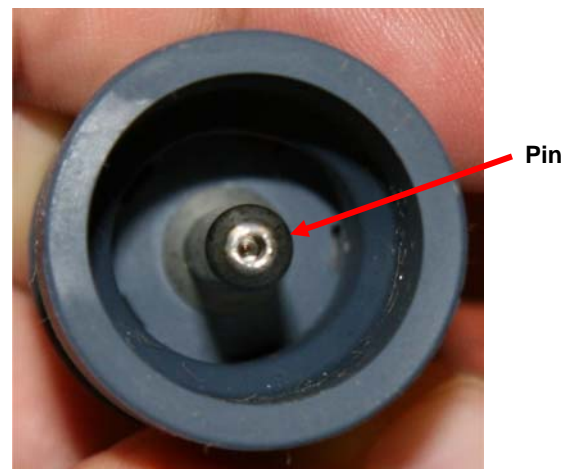

Figure 2
2. If the pin-and-cap assembly can be removed from the UAC coupling, inspect the pin to ensure that it is not bent (see Figure 2). If it is bent, replace the pin-and-cap assembly (part number 963500) on the Warrior (see the information regarding the new pin-and-cap assembly in the last two paragraphs on this page); then follow the lubricating procedure in Step 3 below.